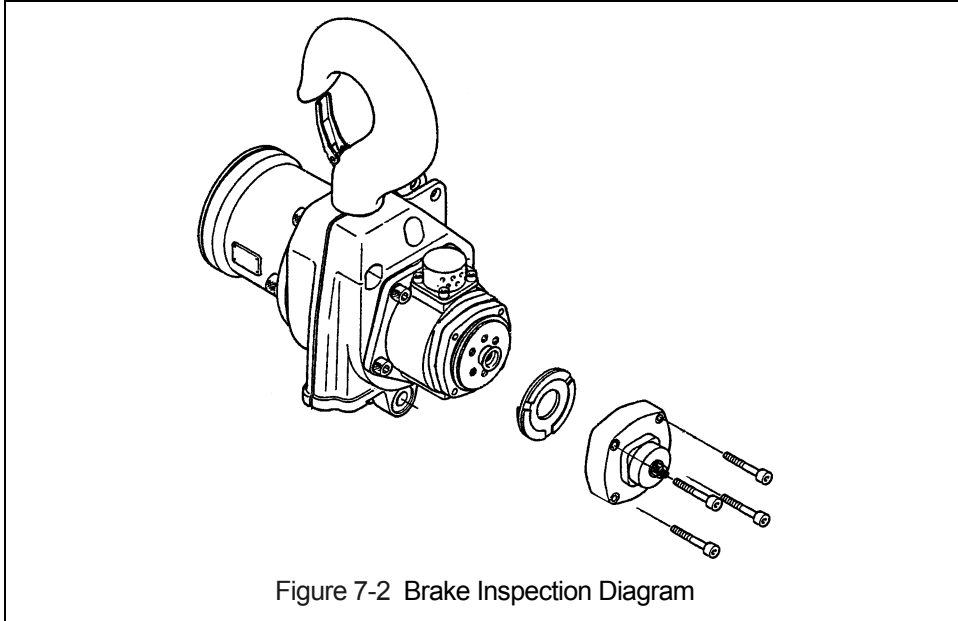

Figure 7-2 Brake Inspection Diagram
7.2.3 The following is the hoist brake inspection procedure. Refer to Figure 7-2.